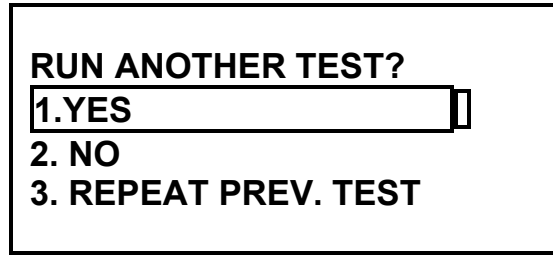

Figure 31.0 Run Another Test Menu
- e. **Results of Action:** After selecting menu option 1, the status “TEST SAVED” is displayed on the LCD. Press any key or push down Control Knob to go to the “Run Another Test Menu” (Figure 31.0).
- d. **Action To Perform:** Selecting option 1 or 2. After the selection is made the status “TEST SAVED” is displayed. Press any key or push down the Control Knob to advance to the “Run Another Test Menu” (Figure 31.0).
- b. **Origin:** After selecting key 2 from the “Run Another Test Menu” (Figure 31.0).
- b. **Origin:** After selecting number 1 (“YES”) from the options listed in “Run Another Test Menu” (Figure 31.0) the “Transformer Name Plate Voltage Menu” to perform another test displays.